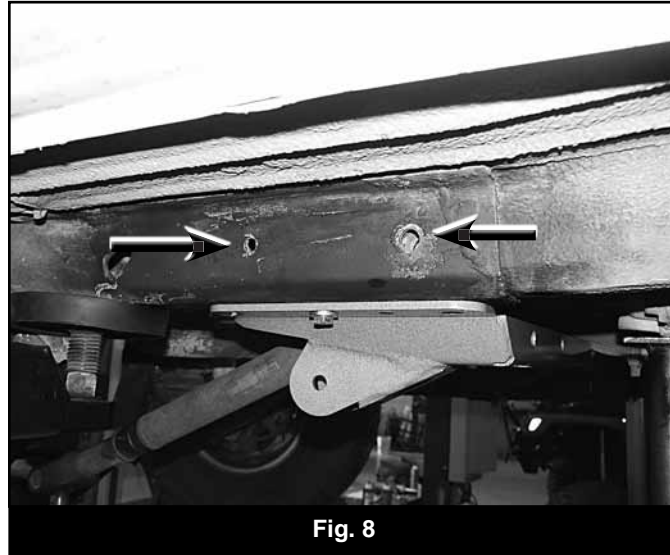

Fig. 8
22. With the rear thru-hole drilled to 7/16", go back with a 5/8" drill (or a uni-bit works well too) and drill just the outside layer of the frame. You will now have a 7/16" and a 5/8" hole in the outside of the frame and a single 7/16" hole on the inside (Fig 8).